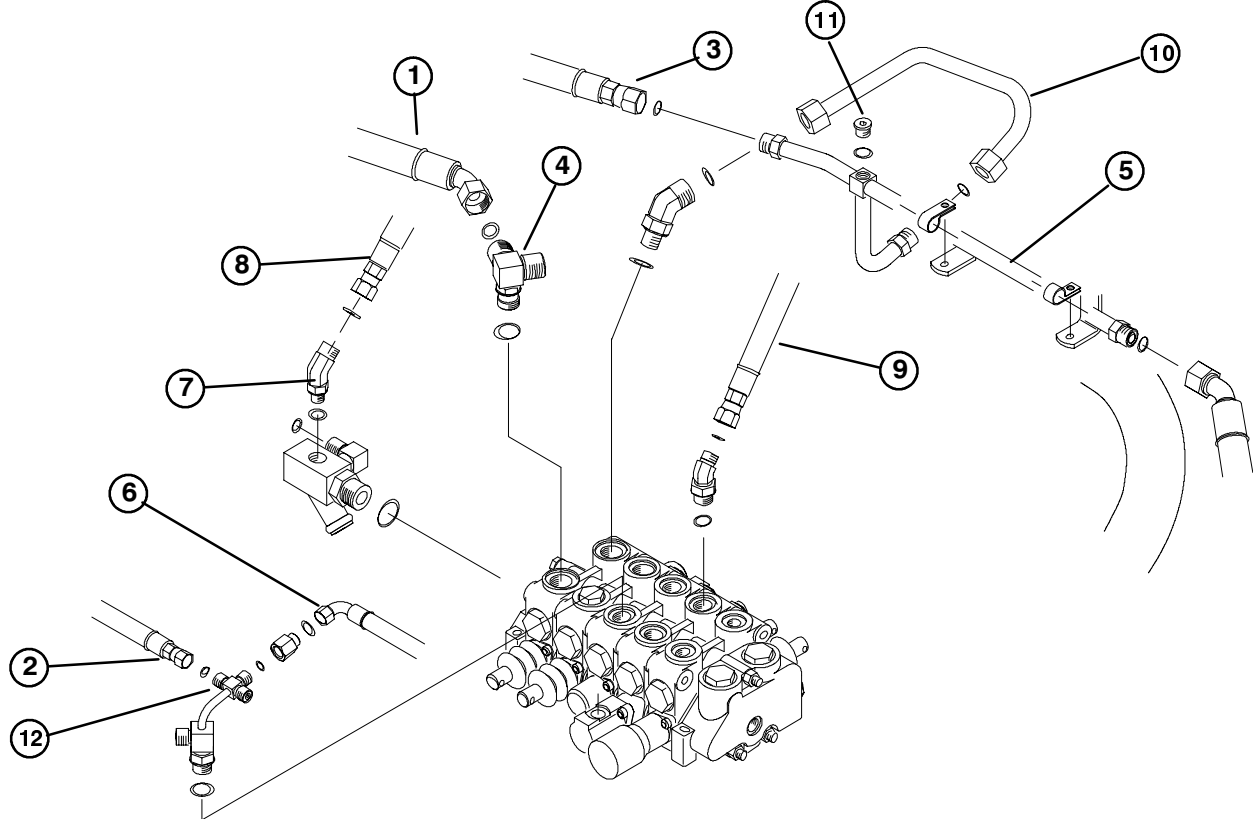

Figure 4
4. Disconnect right and center lift cylinder hoses from brazed tee fitting (Fig. 4).
5. Disconnect right wheel hose from upper right tee fitting on control valve (Fig. 4).
6. Disconnect pump hose from 45 degree fitting on control valve, (lower row, 2nd from left) (Fig. 4).
7. Disconnect steering hose from 45 degree fitting on tee manifold (Fig. 4).
8. Remove and discard 45 degree fitting from top of tee manifold (Fig. 4).
9. Remove and discard U-shaped tube (Fig. 4).
10. Remove and discard hydraulic plug from center port of traction hardline (Fig. 4).